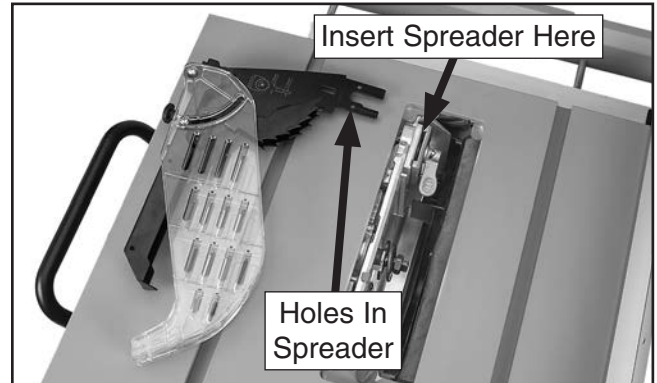

Figure 15. Spreader mounting location.
- Insert blade guard/spreader into spreader/riving knife clamp (see **Figure 15**). Ensure holes in spreader align with bumps inside clamp.